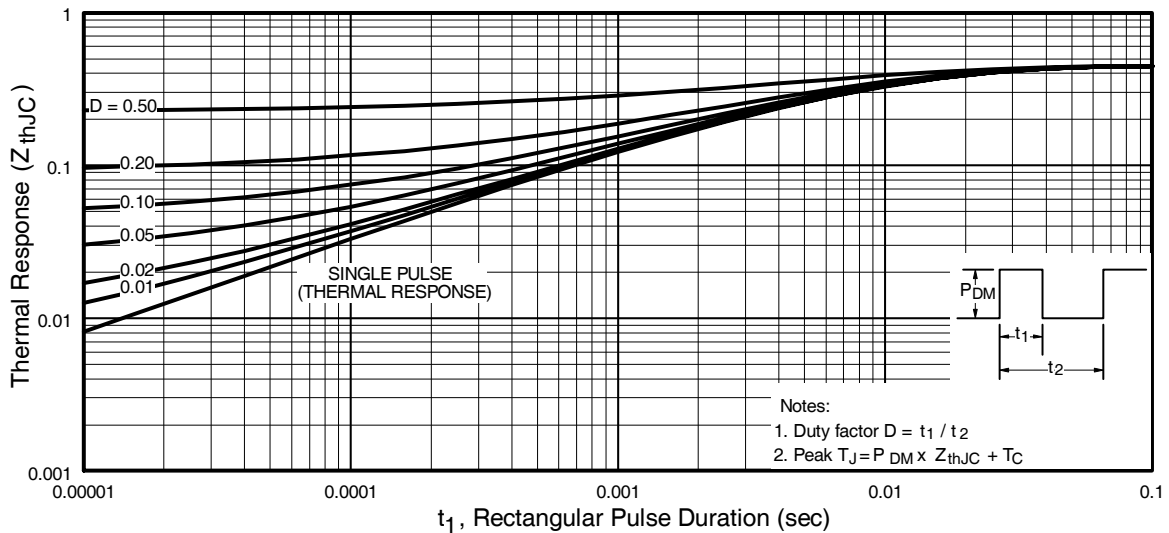

Fig 11. Maximum Effective Transient Thermal Impedance, Junction-to-Case
- ① Repetitive rating; pulse width limited by max. junction temperature. (See fig. 11)
$Z_{thJC}(D, t_{av})$ = Transient thermal resistance, see figure 11)